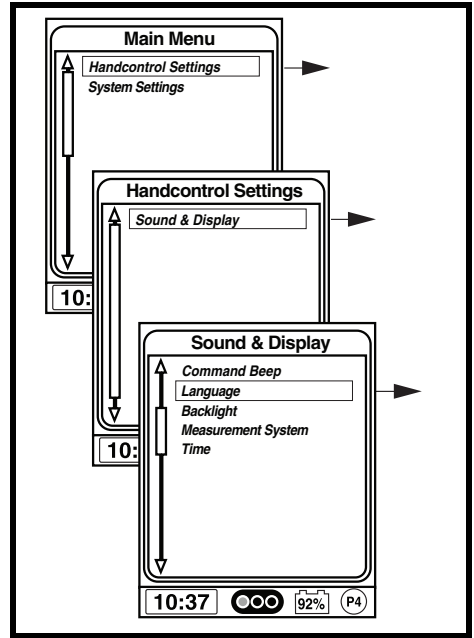

Figure 13. Menu Screens
3. Use the joystick to highlight the Handcontrol Settings option, then push the joystick right to select that function. See **figure 13**.